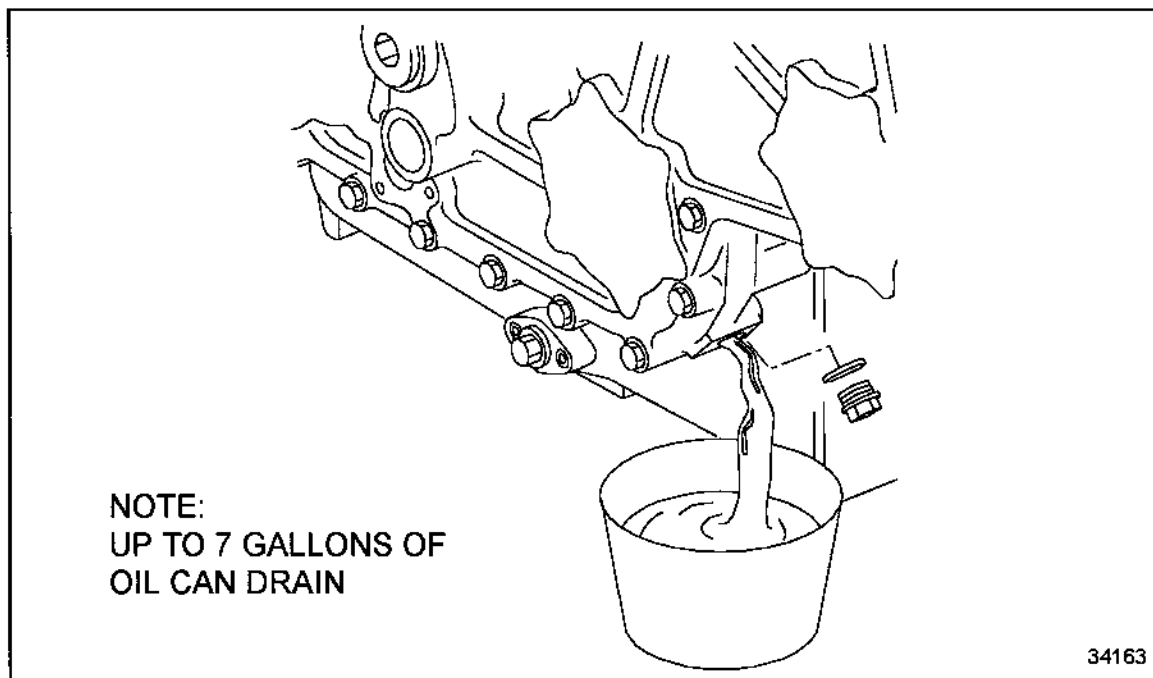

Figure 17 Draining Remaining Oil from the Gear Case
1. Drain remaining oil at the gear case and at the oil drain plug on the oil pan. See Figure 17.